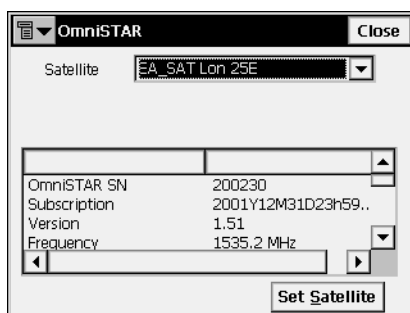

Figure 5-12. OmniSTAR Status
- **Status**: opens the OmniSTAR screen to view information on OmniSTAR link and the receiver OmniStar board (Figure 5-12).